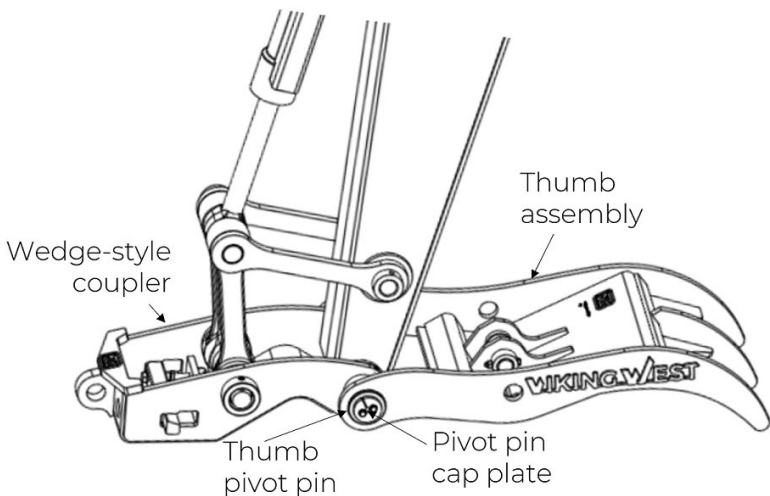

Figure 4: Direct link thumb assembly attached to coupler and excavator arm.
7. Lock the thumb pivot pin in place using the pivot pin cap plate, as shown in Figure 4 below. Apply medium Loctite to the fastener threads. Apply standard torque according to the torque chart on page 13.